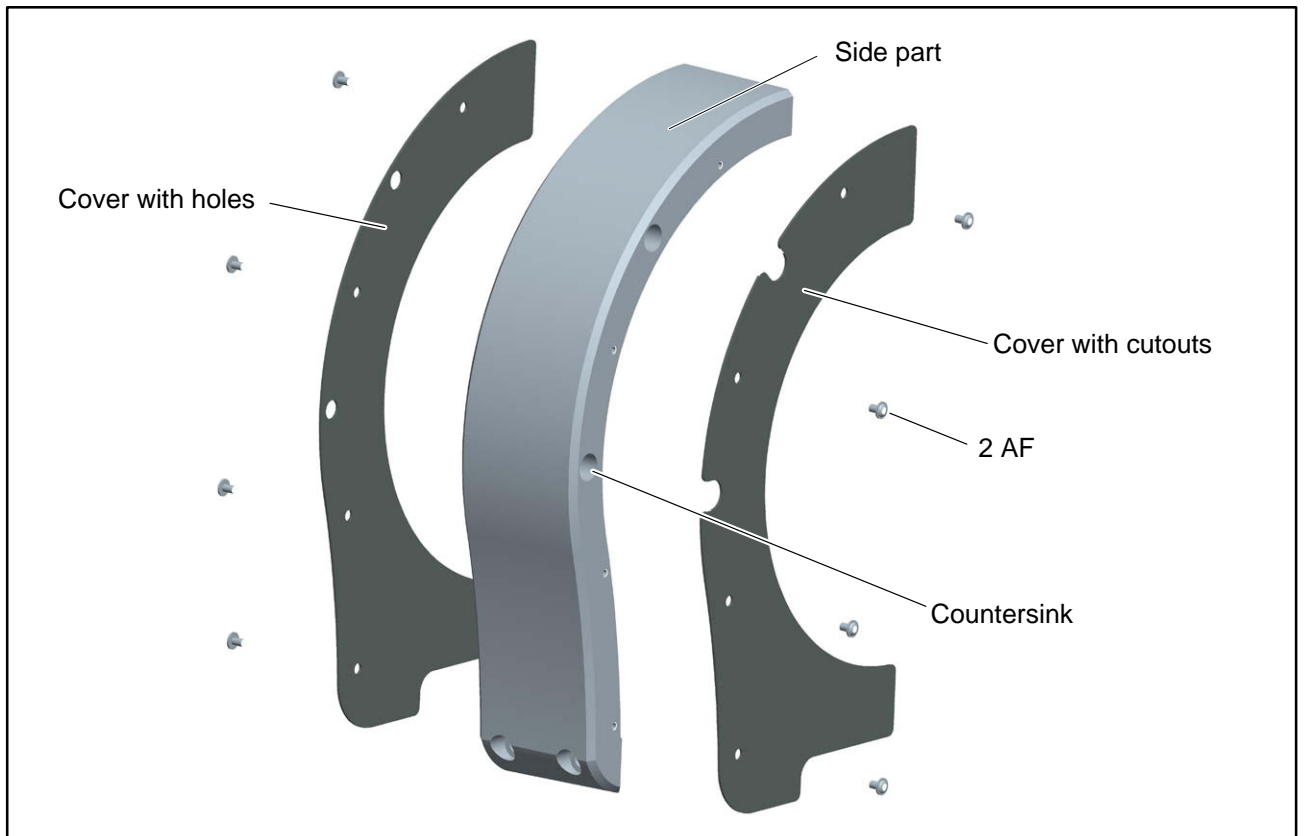

Fig. 6.7: Fit the covers
4. Screw the covers onto the side parts (use hexagon socket, 2 AF; tightening torque $M_A = 1 \text{ N} \cdot \text{m}$). It is essential to fit the cover with the cutouts onto the side with the countersinks (see Fig. 6.7).